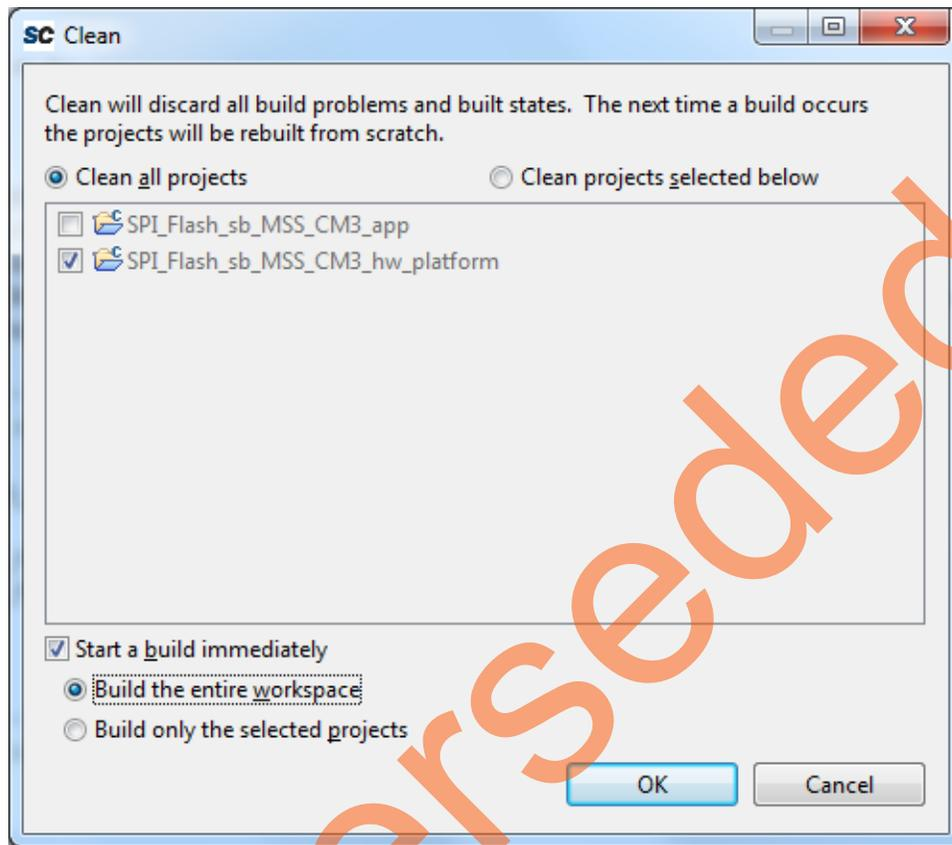

Figure 25 • Settings for a clean build
12. Perform a build by selecting **Project > Clean**. Leave the default settings in the **Clean** dialog box and click **OK**, as shown in Figure 25.